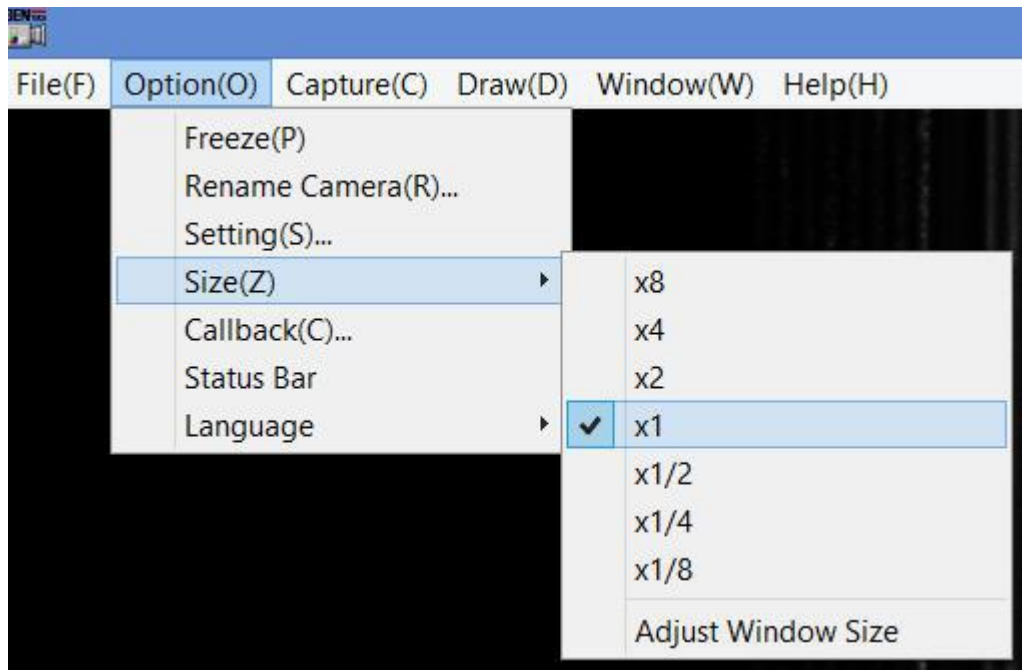

Figure 47 StCamSware GUI
47. Go to StCamSware GUI ->Option and Select Size (Z) “x1” as below Figure 47.